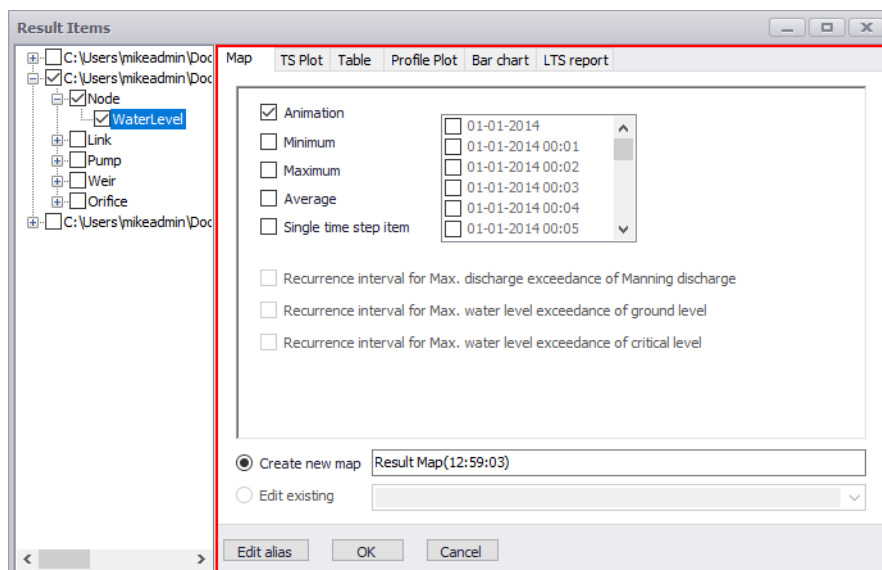

Figure 20.10 Choosing plot value type to display on the map
Plot results on a result map via the Map tab on the Result Items dialog (Figure 20.10). The dialog is accessed via the 'Result documents' option from the Result View local context menu.
- Navigate to the Map tab on the Result Items dialog (Figure 20.10).